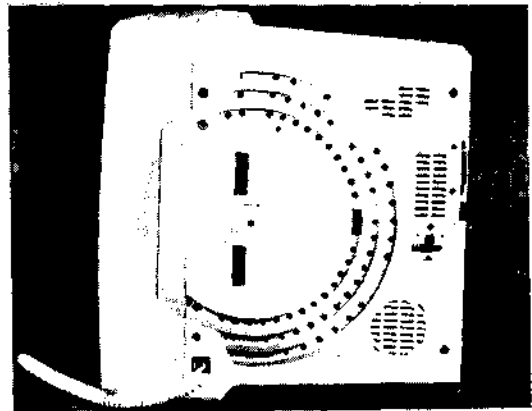

Figure 2-2. Keyboard Connection
**2.1.3 Keyboard Connection.** To connect the keyboard to the display console, orient the connector so that the small tab is toward the front of the terminal, and press the connector into the mating jack at the bottom left side (figure 2-2) until it latches in place.